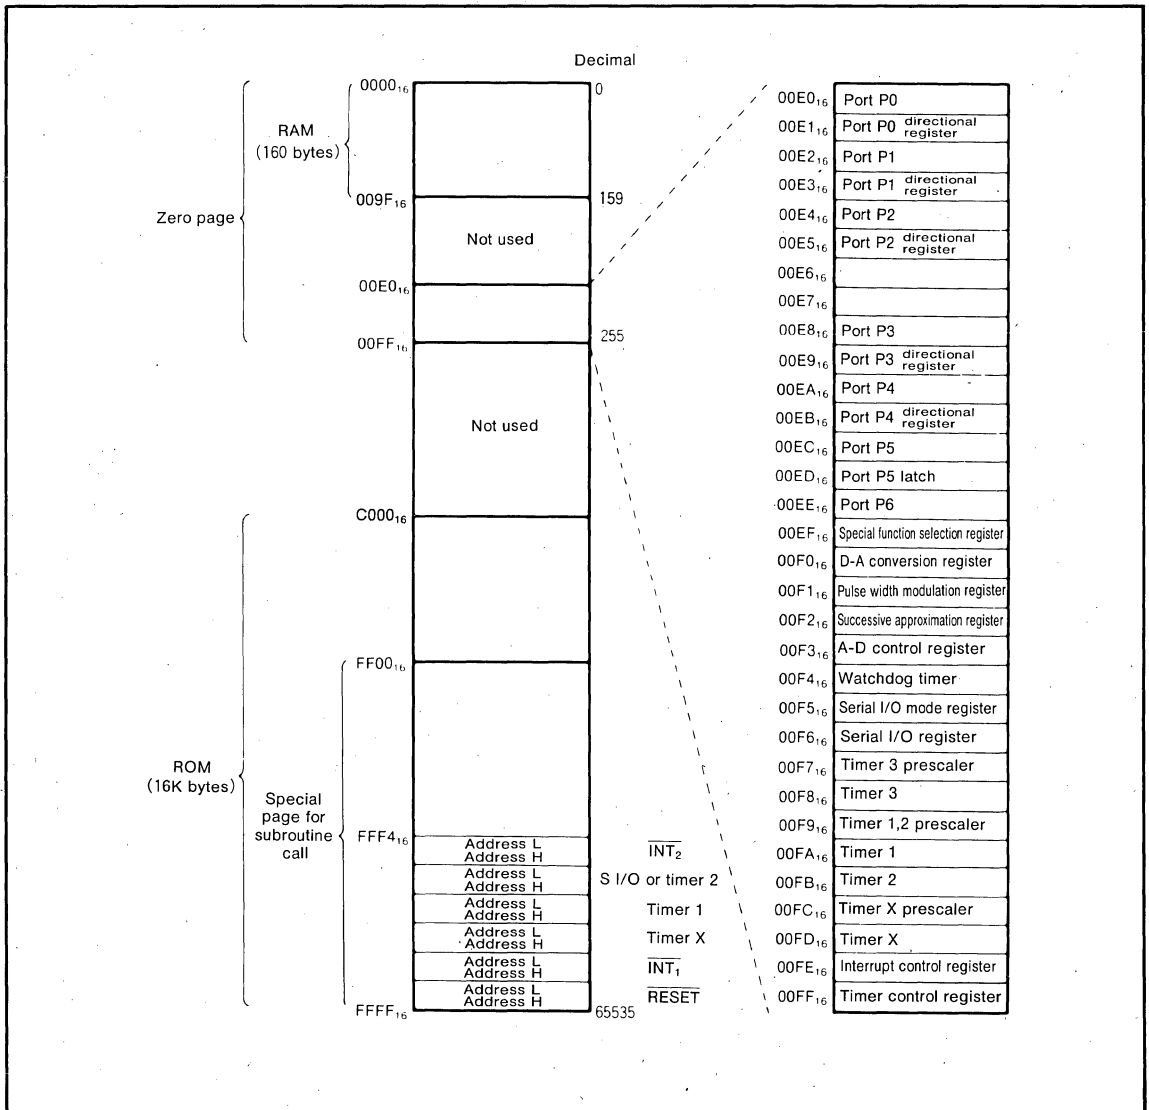

Fig.1 Memory map
The memory map is shown in Figure 1. The M50964-PGYS is mounted an EPROM instead of an internal ROM.
- (1) In case of the M5L2764K or the M5L27128K EPROM use the following areas (refer to Figure 1):